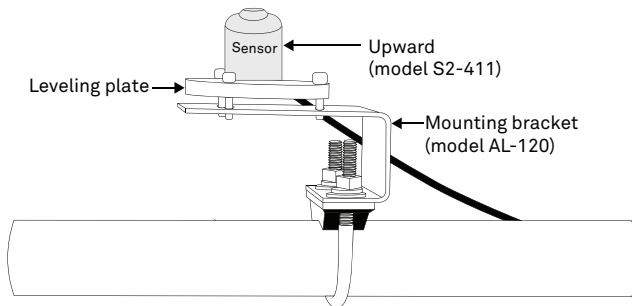

Figure 2 Upward-facing sensor installed on mounting post
3. Mount the sensor to the leveling plate with the provided nylon screw (Figure 2).
4. Attach the leveling plate to the mounting bracket using the three machine screws included (Figure 2).
5. Attach the mounting bracket either to a horizontal arm (Figure 2) or vertical post using the included U-bolt.